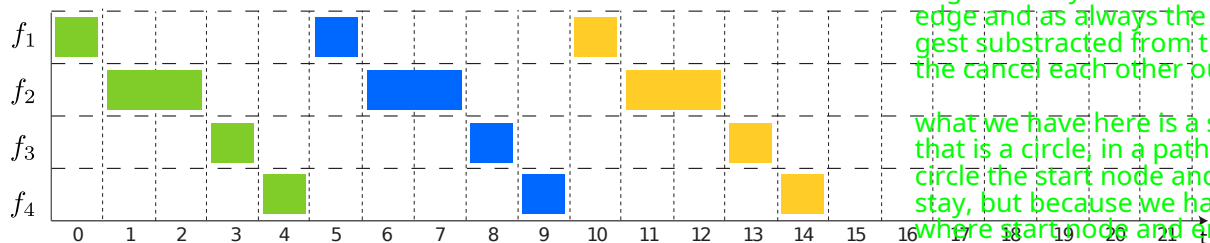

Figure 8: Pipelined Scheduling with resource constraints
- (d) (3 points) Now assume that, there are only **one** multiplier to compute f_2 and one adder to compute f_1, f_3 or f_4 available. First, depict a pipelined scheduling in Figure 8 under this resource constraint with a predefined minimal iteration interval $P = 5$. Then, indicate the latency L of the schedule. Draw **three** consecutive iterations, and mark different iterations clearly, e.g. with different colors, different textures, or different numbers.